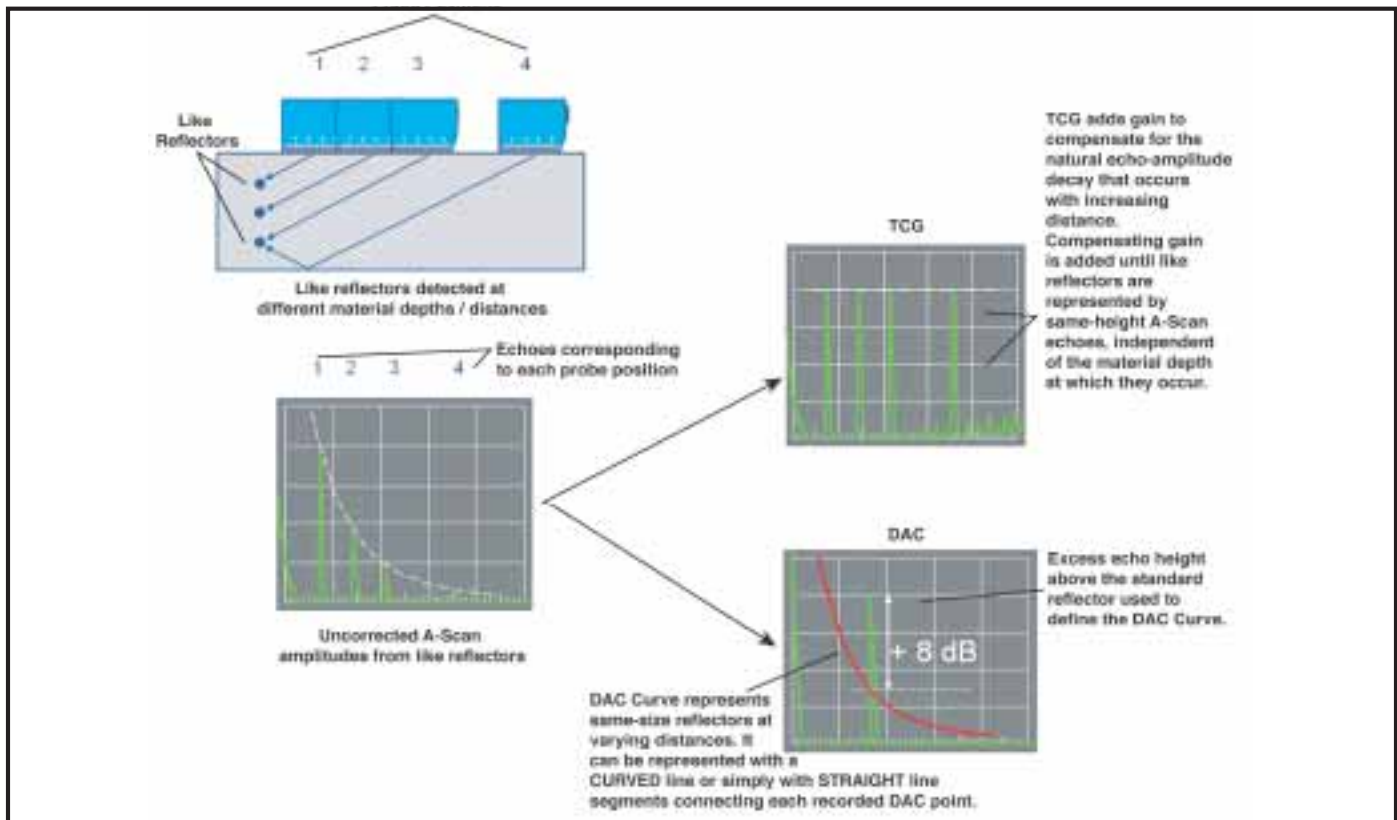
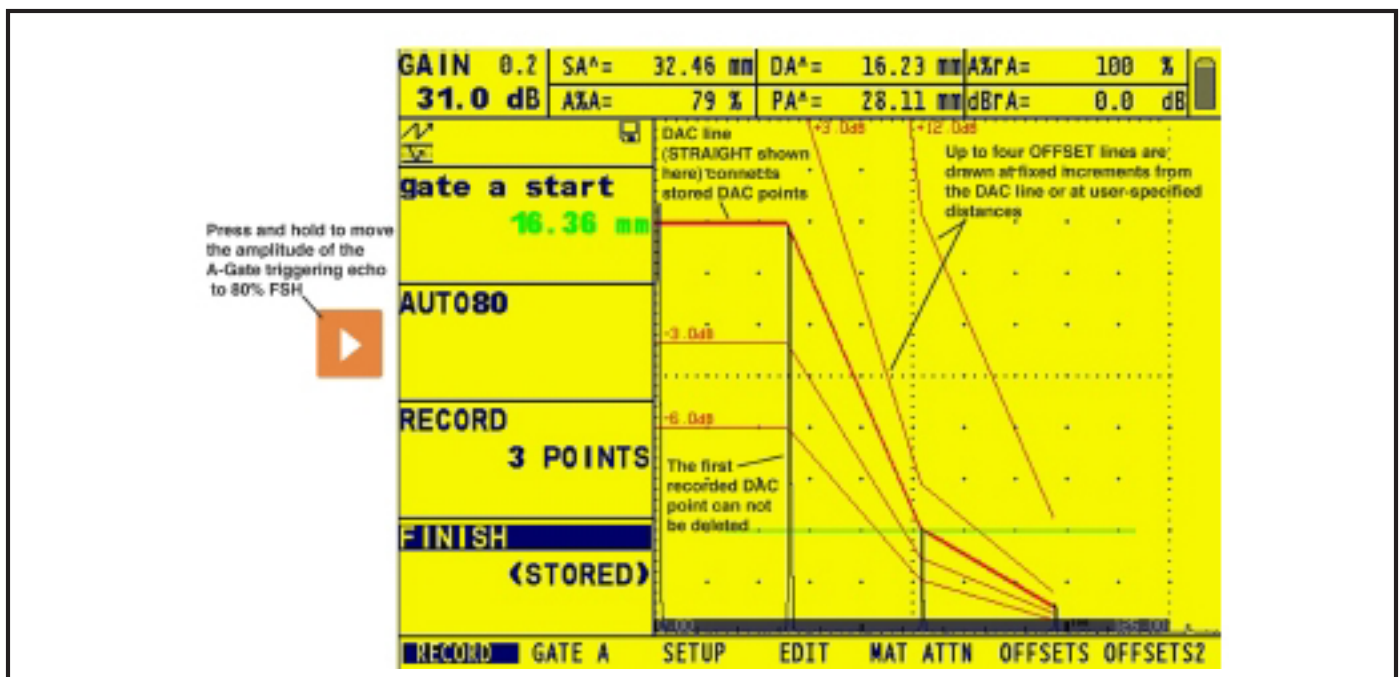

Figure 53: Distance/Time Compensation Features
Figure 54: Storing at least two DAC points allows you to generate a curved or straight (shown here) DAC line and corresponding offset lines.
Conventional measurements can be made using the Time Corrected Gain (TCG) and Distance Amplitude Correction (DAC) functions (Figure 53 below). These functions are accessed through the DAC/TCG Menu on the HOME Menu bar. Both the DAC and TCG functions operate based on a set of user-recorded data points. These points are recorded from the DAC/TCG menu as described below.
The DAC function displays all echoes at their true amplitude (without depth compensation). However, when operating in DAC mode, a Distance Amplitude Correction curve is superimposed on the A-Scan display. The curve, like the one shown in Figure 53 below, represents constant reflector size at varying material depth.
In DAC mode, the instrument uses the user-input reference points to create a curve representing the amplitudes of echoes representing same-size reflectors at varying material depth (Figure 53 on the previous page). The recorded reference point data is stored until replaced or edited. To create a DAC curve and operate in DAC mode:
3. The DAC curve can appear as a series of straight line segments (Figure 54) joining the stored DAC points or as a curved (linear in gain – as shown in Figure 53) line that's based on these points. Access the DAC TYPE function, located in the SETUP Submenu, to display the desired DAC curve type.